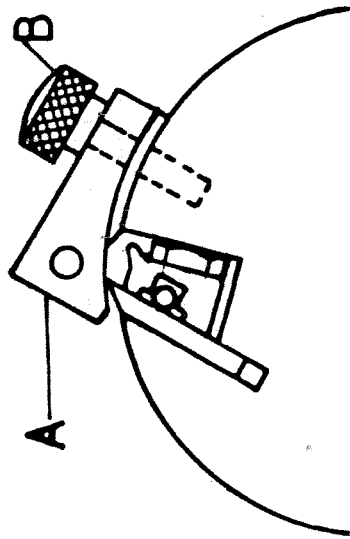

FIG. 6.
- 2 Turn the cutterblock to approximately the position shown in FIG.6 and loosen the 5-M12 hexagon head screws, carefully remove knife from cutterblock.
- 3 To re-set the knives the cutterblock should be in the approximate position as shown in FIG.6. Place knife in between wedge and cutterblock with the blade drawn forward slightly.
- 4 Carefully secure the knife setting device 'A' FIG.6, to the cutterblock with the two knurled locking screws 'B' as shown in FIG.6.
- 5 Whilst turning these locking screws 'B' FIG.6, knife will be lowered to correct setting which is reached when knurled screws are locked in position and knife just touches knife setting device.